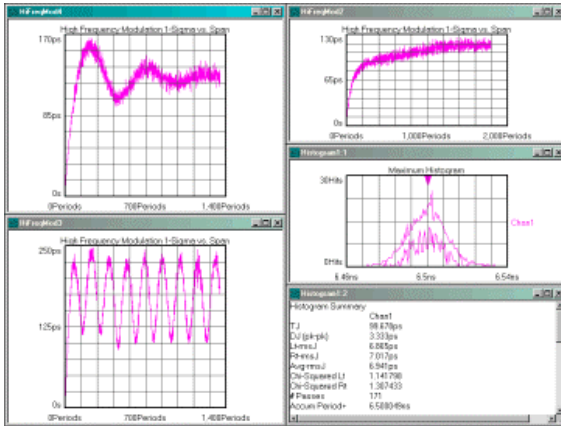
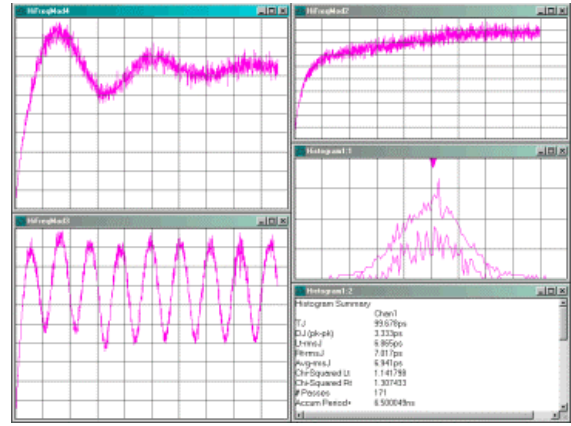

Figure 20. No Margins (de-selected)
Figure 21. No Margins (selected)
- Typically, Margins and Axis labels are displayed (Figure 20). When the “No Margins” option is selected or checked, plot legends and labels will not be displayed when more than one tool or view is open (Figure 21). “No Margins” allows many plots to be displayed on the screen. To see legends, select a view and maximize it.